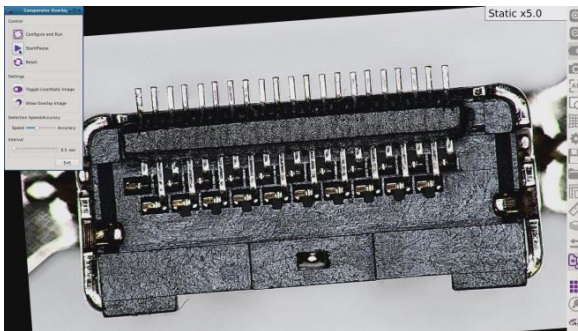

Fig. 42c Golden Sample Skewed
6. Click the “**Configure and Run**” button and the app will automatically adjust any misalignment to allow for accurate comparison (Fig. 42c and 42d). The speed of the comparison can be adjusted from the default of 0.5 sec to 3 sec via the Interval Slider.